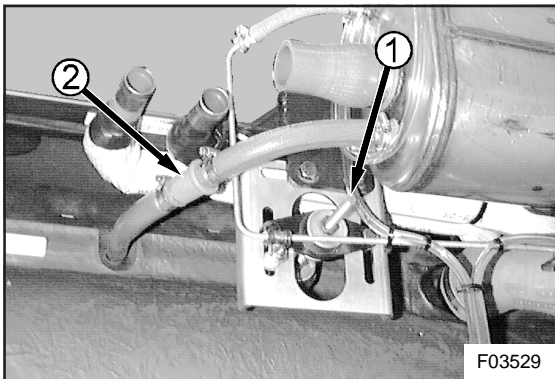

Figure 14: Radiator steady bar and surge tank breather hose
16. Disconnect and remove radiator to chassis steady bar (1, Figure 14). Slacken hose clamp and detach surge tank breather hose from radiator (2, Figure 14).